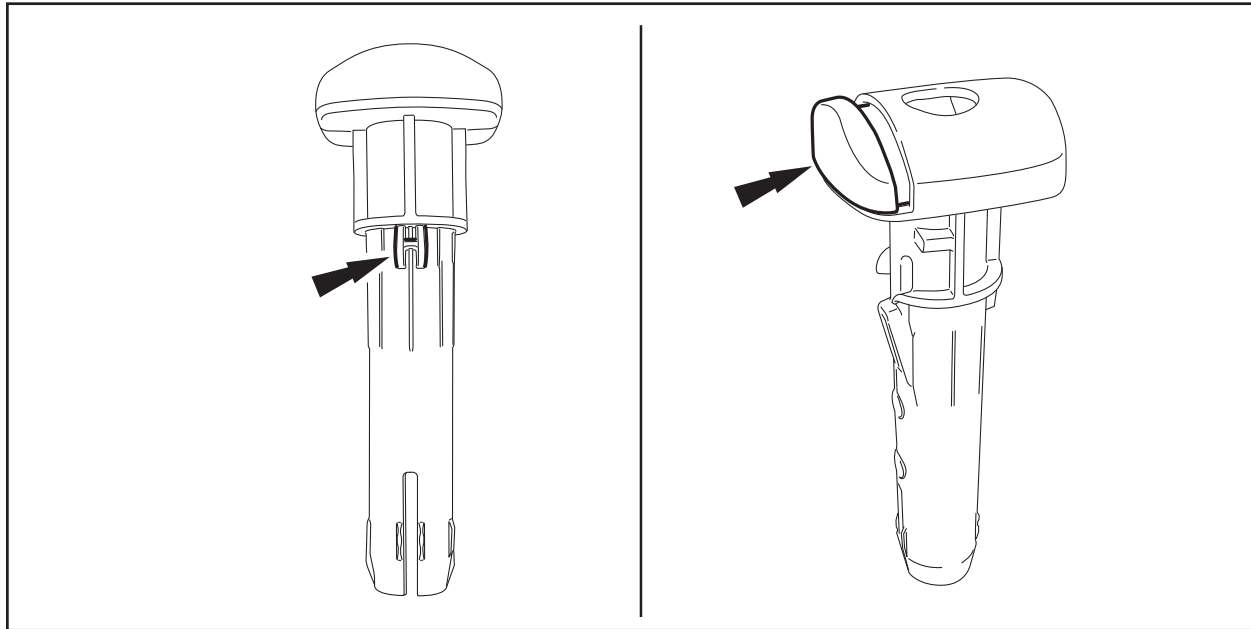

FIGURE 19
Install the **new** head restraint guide sleeve with the large button and wide key on the LH side of the seat with the button facing the driver door. See Figure 19.
37. Install the **new** head restraint guide sleeve with the small button and thin key on the RH side of the seat with the button facing the driver door. See Figure 19.